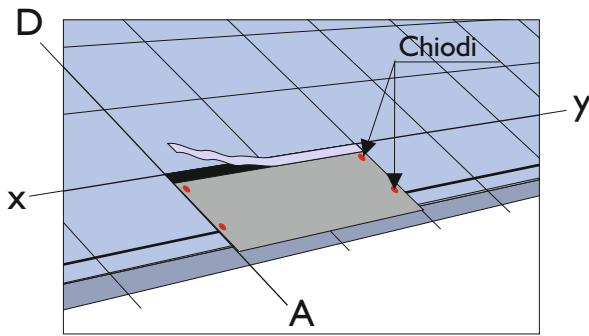
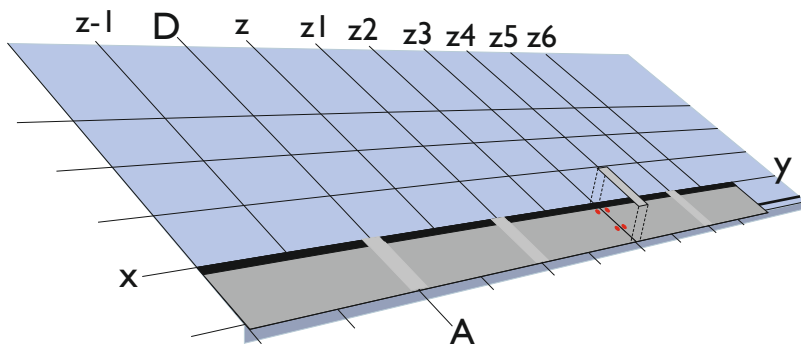
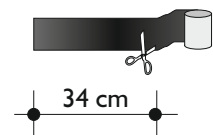

Fig. 4 - Installation of the first shingle Compact
Fig. 6 - Installation of Compact Strip
Fig. 7 - to cut of “Compact Strip”
- The first row starts by aligning the first PRESTIGE ULTIMETAL shingle along the line AD (Fig. 4) and nail as shown in picture 5.
- Before the installation of the second row of shingles remove the protection of the self adhesive fascia (Fig. 4), and cut pieces of 34 cm of “Compact Strip” (Fig. 7) which will be installed at the center of the joints of the shingles (Fig. 6), taking care to press them down for a perfect adhesion. Don't remove the white film on the top side of the “Compact strip”.